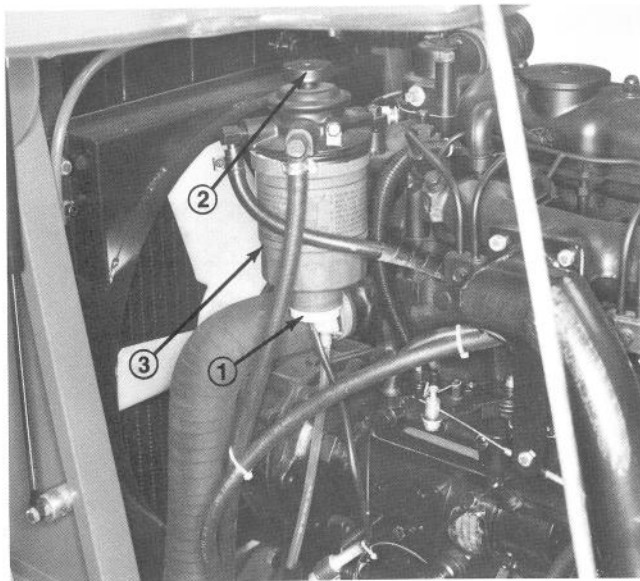

Figure 36
1. Draining Water From Fuel System (Fig. 36) – Drain water from fuel system daily or when warning light indicates excess water has collected. To drain, loosen drain fitting on bottom of fuel filter. Drain into a container until only fuel is evident (Fig. 36).